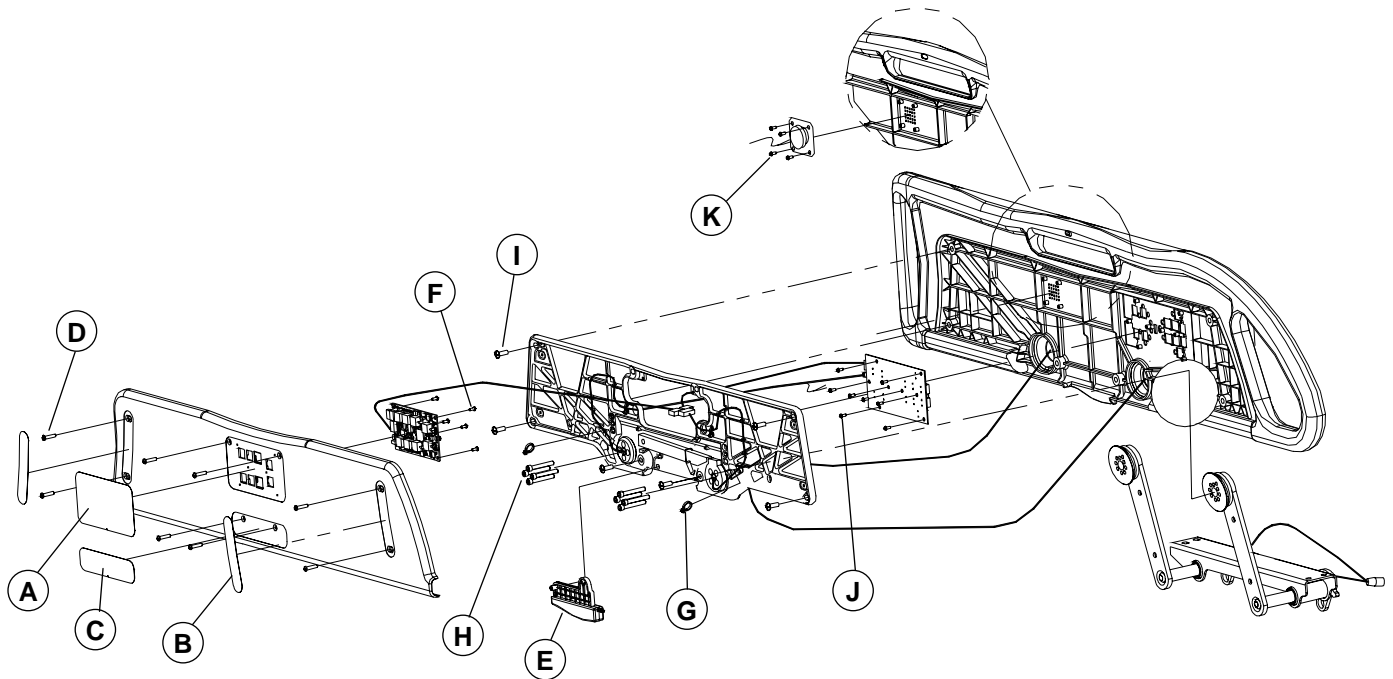

Figure 4.1C
Unless otherwise indicated, refer to figure 4.1C above for the illustration of this procedure reference points.
Unless otherwise indicated, refer to figure 4.1C on page 22 for the illustration of this procedure reference points.
2. Using a Phillips screwdriver, remove the four screws (K, fig. 4.1C, page 22) holding the speakerphone to the siderail.